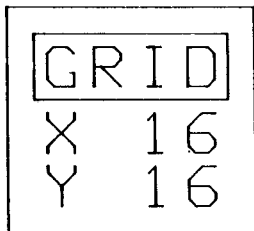

Fig 1
- 3 Move XY to light the X 32 flag. Press and hold L and rotate Z to change the X value to 16, release L and move XY away to confirm the new setting (Fig 1).